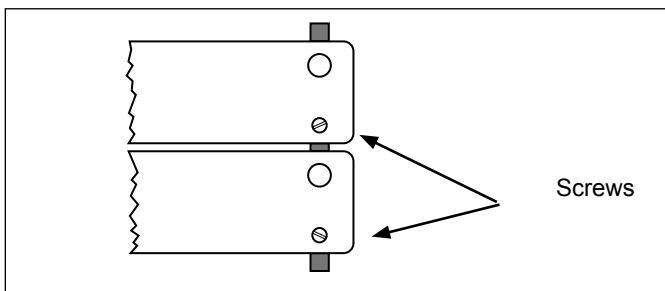

Figure 9. Master Links
2. Apply **McD® Heavy Duty Degreaser (HCS)** on a *clean, sanitizer soaked grill cloth*. Wipe the exposed part of the Conveyor Belt with the grill cloth from side to side. Use the master links for reference (Figure 9).